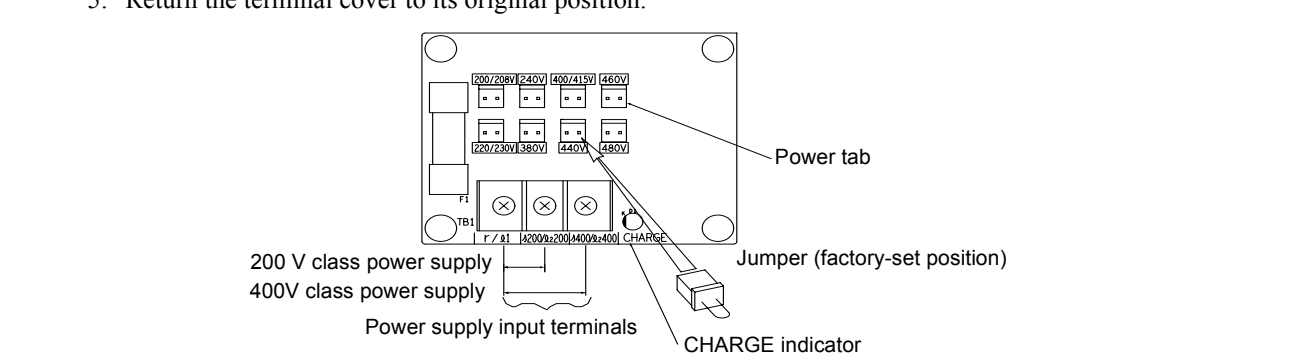

Fig 4.2 Large-capacity Inverter Connections
4. Insert the jumper at the position for the voltage supplied to the Inverter (see *Fig 4.2*).